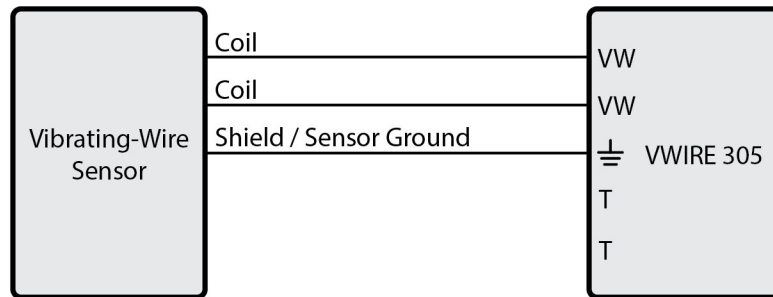

FIGURE 4-2. Three-wire sensor connection schematic (no embedded thermistor)
2. Connect the sensors to the VWIRE 305 (FIGURE 4-2 (p. 3) and FIGURE 4-3 (p. 3)). For further guidance on connecting sensors, see Sensor connections (p. 31).